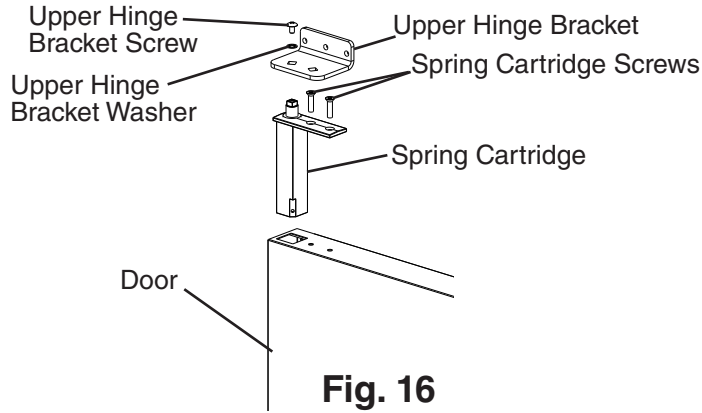
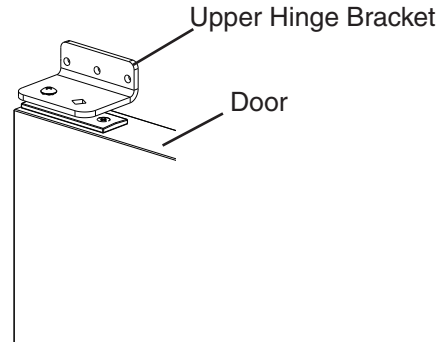

**Fig. 14**
**Fig. 15**
- 7) Rotate the door 180 degrees, to its new orientation. Remove the nylon bearing and filler screws. See Fig. 14. **NOTICE! Care should be taken not to damage the door.** Mount the nylon bearing and filler screws into the holes left by the spring cartridge in the lower section of the door. See Fig. 15.